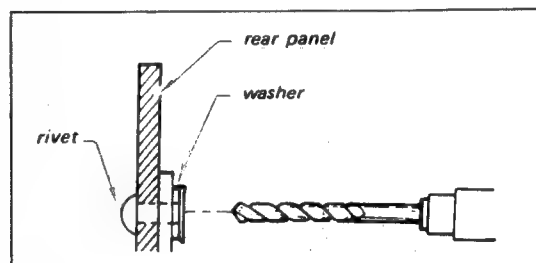

Fig. 2-11. Rivet replacement
2. Bore out the rivets using a drill bit slightly larger in diameter than the rivet. See Fig. 2-11.